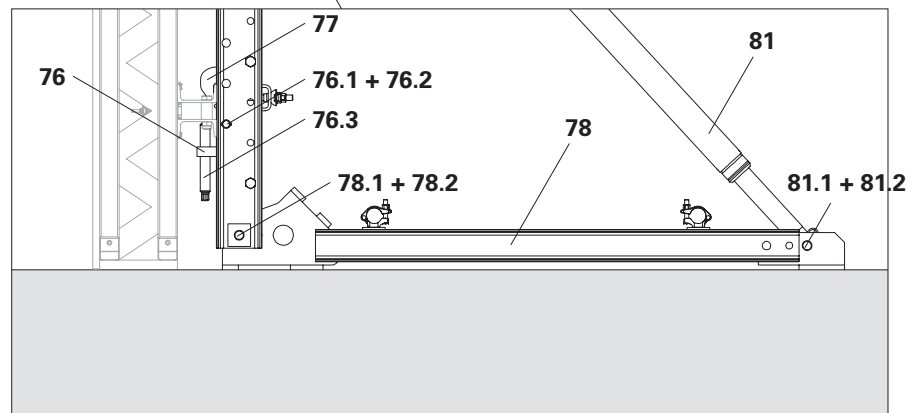

Fig. D2.02
- Secure the Height Adjusting Unit CB SCS (**76**) on Strongback SCS 325 (**74**) with bolt Ø25x180 mm (**76.1**) and Cotter Pin 5/1 ga (**76.2**). (Fig. D2.02)